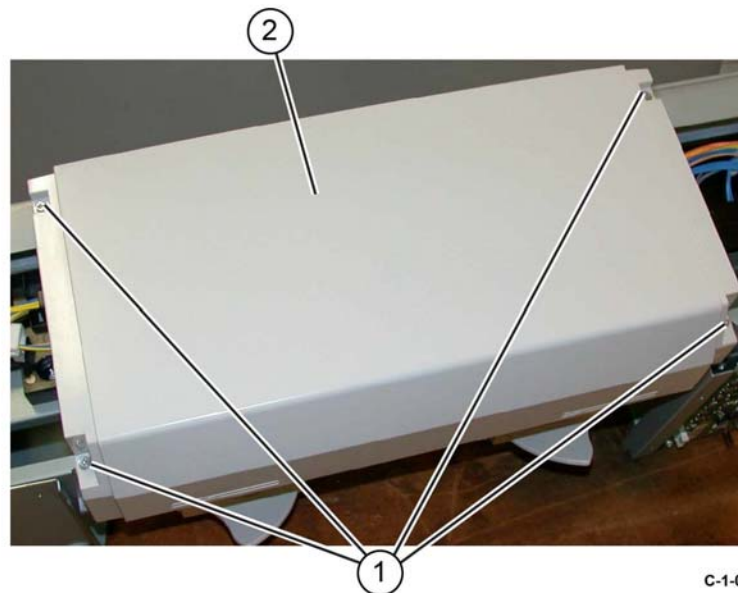

Figure 1 Booklet top cover removal
3. Remove the booklet top cover, Figure 1:
- a. Remove four screws (1).
- b. Remove the booklet top cover (2).